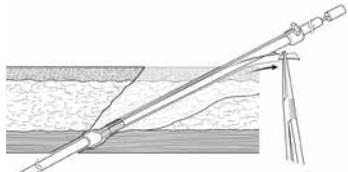

Figure 29
2. Retract the Luke Guide parallel with the catheter (Figure 29).